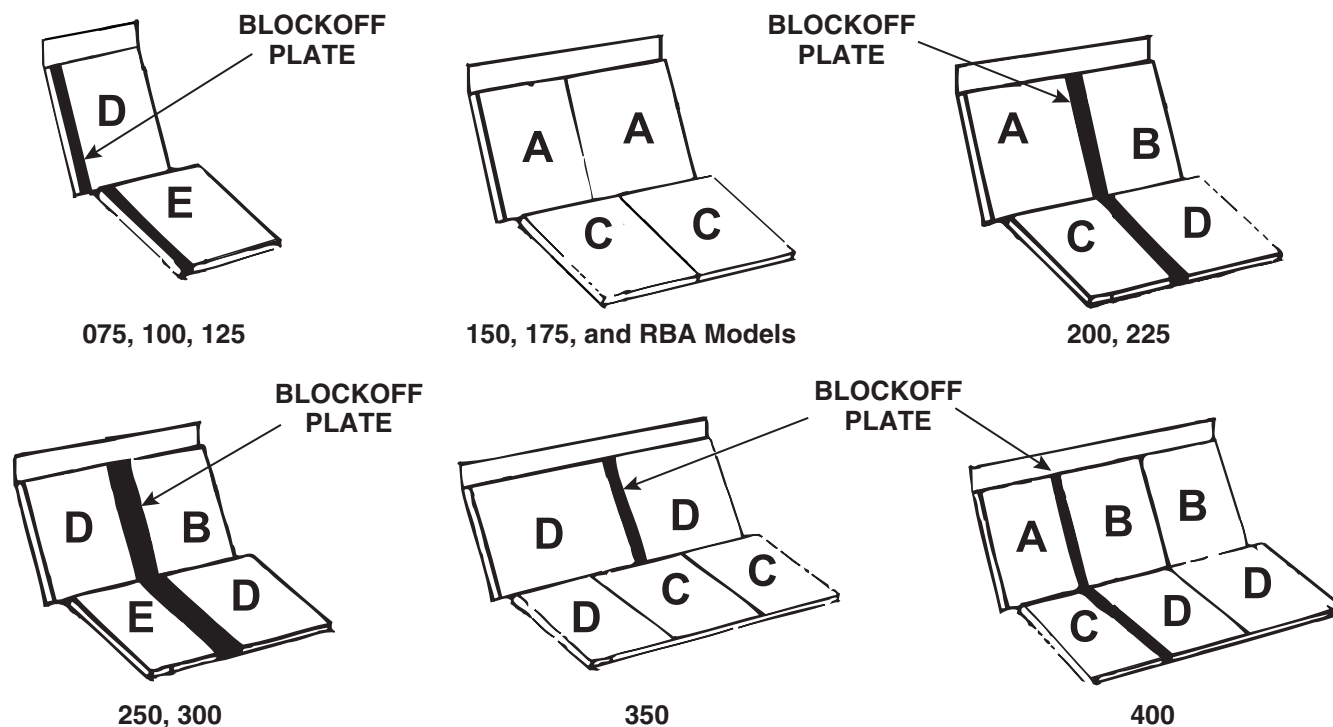

Figure 29. Filter Arrangements—RGB, RPB, and RBA (Blower Cabinet) Models (Refer to Table 53)
- Filter arrangements for RGB, RPB, and RBA (blower cabinet) models are shown in Figure 29 and listed in Table 53.
*See Figure 29 .
**Quantity is one (1) unless otherwise indicated.